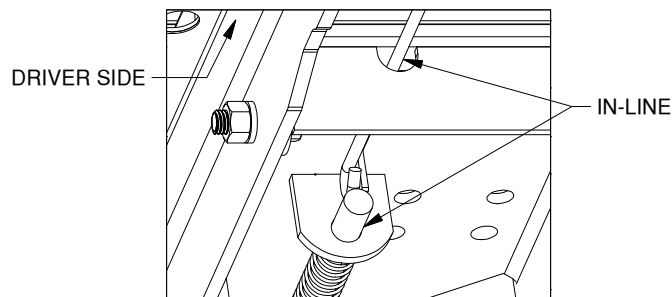

Figure E1: Handle Installation
- 1. Insert the handle.** Install the latch pin release handle by inserting it through the slot in the end of the center section on the driver side of the truck. Align the handle eyelet with the square hole in the latch pin so the handle is in line with the latch, as shown in Figure E1.